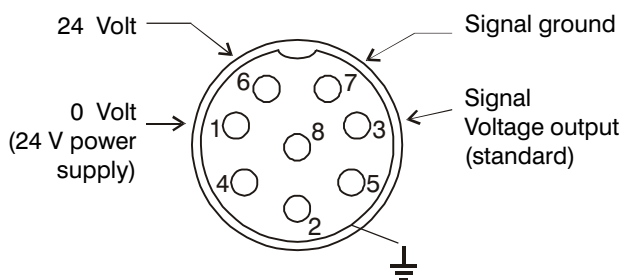

Fig. 5.1: Socket pin assignment and signal output for standard supply (+24 VDC)
- 1) to the 8-pole built-in socket (Fig. 5.1) on the controller casing with the enclosed plug,